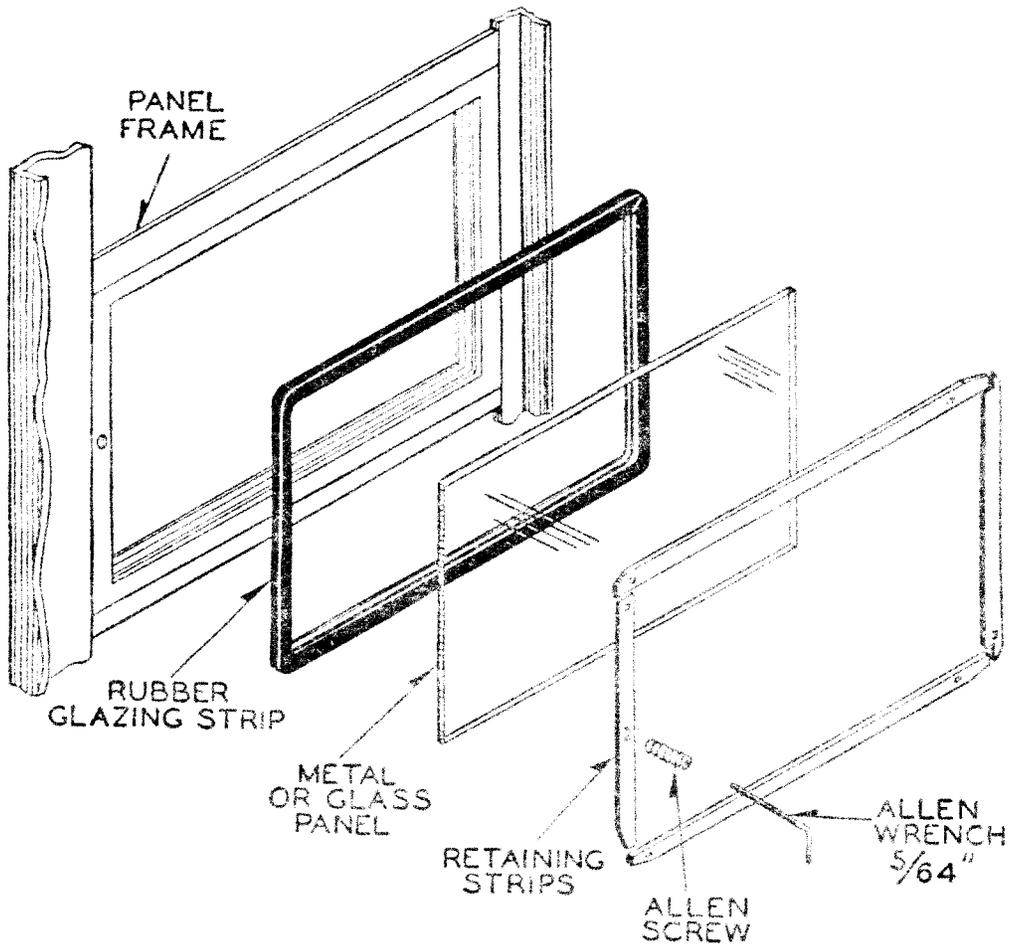

Fig. 2—KS-14611, L2 Telephone Booth—Panel Assembly
- (b) Replace retaining strips in reverse sequence and tighten Allen screw, (see Fig. 2).